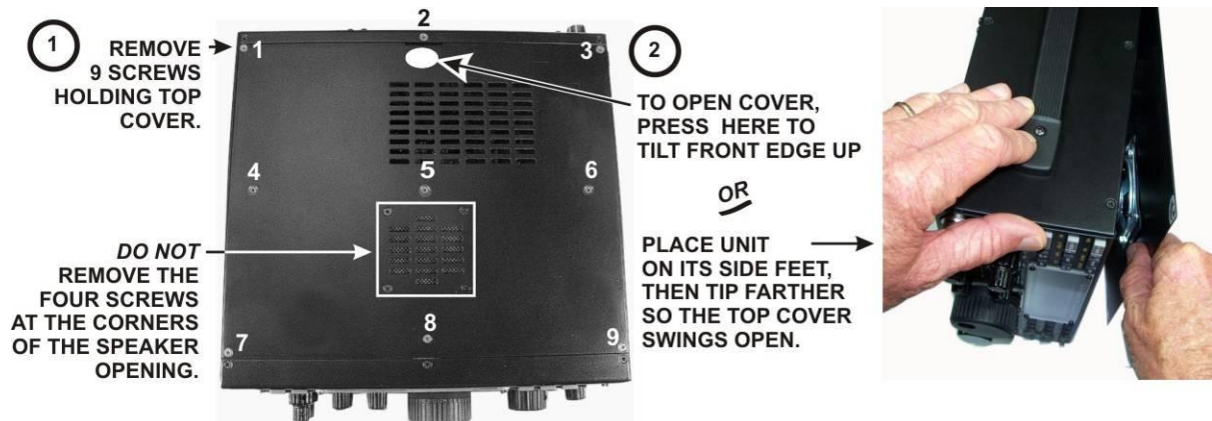

Figure 2. Removing K3 Top Cover.
- Remove the nine screws to free the top cover as shown in Figure 2. After the cover is open, lift it gently to reach the speaker wire connector. Unplug the speaker then set the top cover aside in a safe place.